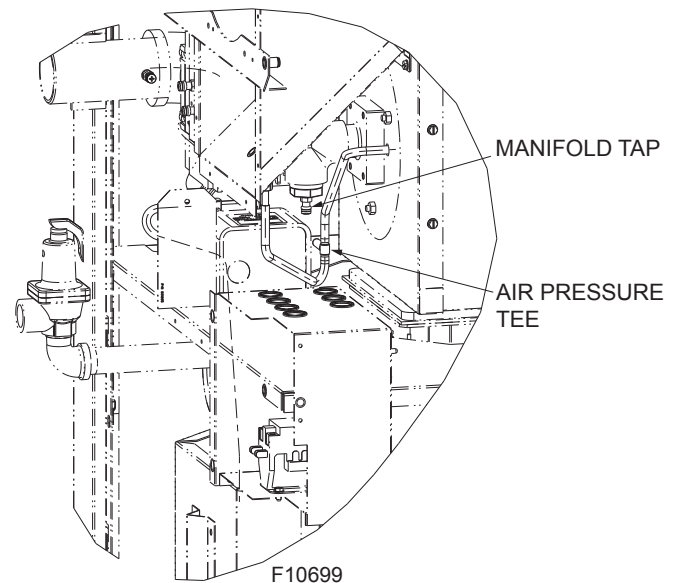

Figure 54. Air Pressure Tee
4. Attach second 12" scale manometer on the fan suction pressure hose. Pull black cap from the air pressure tee and connect the manometer. See **Figure 54**. NOTE: Retain caps for reinstallation later.
1. Check blower suction using the manometer attached to the air pressure tee with the heater firing at 100% input. See **Figure 54**. The reading should be as noted in **Table U** for both natural and propane gas.